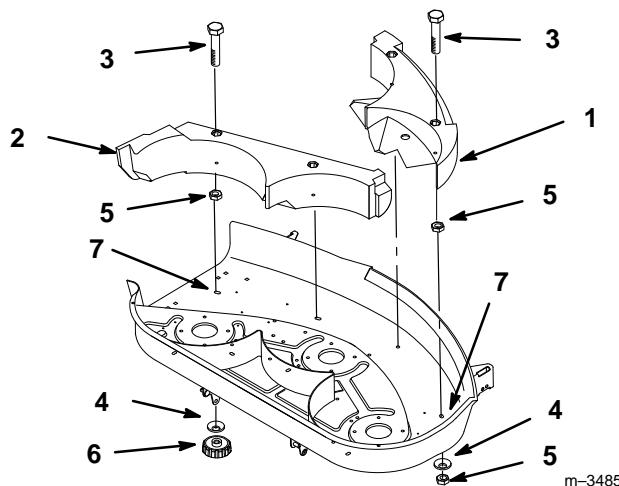

Figure 37
2. Remove the (2) carriage bolts, washers, and locknuts from the slotted holes of the mower (Fig. 37).
3. Thread a 5/16 x 1-1/4" (32 mm) bolt through each baffle as shown in Fig. 37, and thread a 5/16" nut on the end of each bolt.